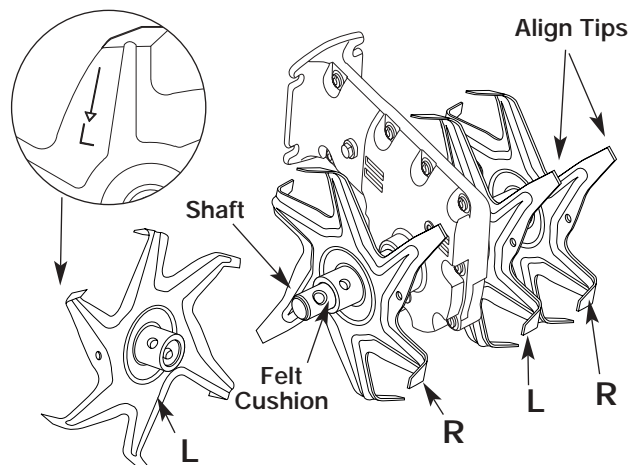

Figure 28
- Ensure the tips on tines are aligned in the same direction with each other before reinstalling the clevis pins and pin clips. See Figure 28.